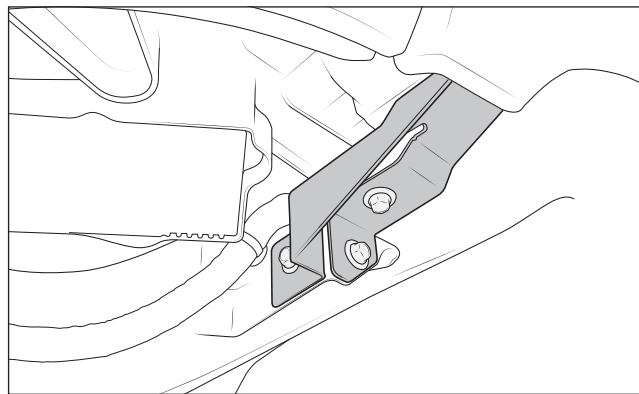

Figure 23
- G. Reinstall AEV Bracket (fig. 23).